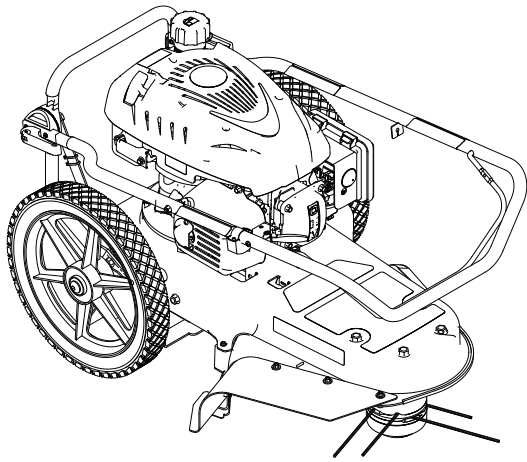

FIGURE 2: Your New String Mower as it is shipped to you.
4. Pull the mower out of the carton. **SEE FIGURE 2**